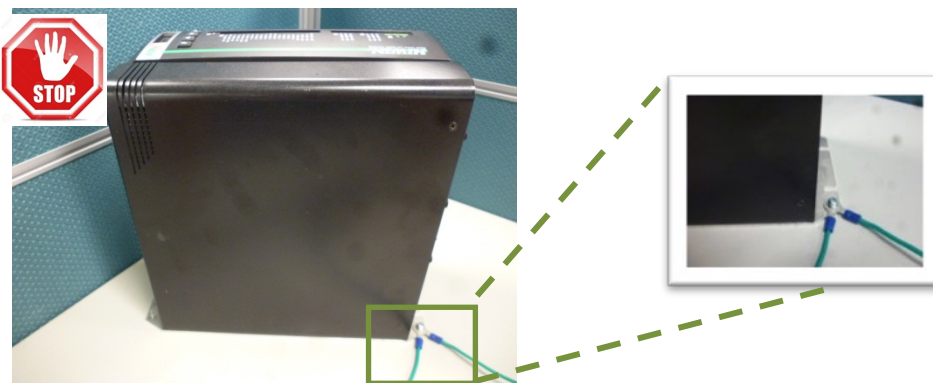

Figure15.2.2 Prohibited wiring method of D1-N-90
- (2) To avoid electric shock, the ground (PE) (symbol \oplus) terminal of the servo drive must be connected to the ground (PE) terminal of the electric box.
- (3) In normal application, it is prohibited to connect two ground wires to the same ground terminal, as figure 15.2.2 and 15.2.3.